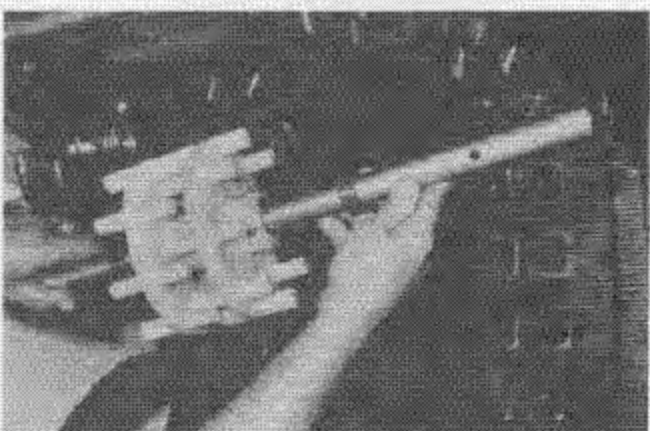

Fig. 45 — Removing or Installing Drive Shaft and Sprockets
9. Slide shaft, bearing lock collars and sprockets out of right-hand bearing as shown in Fig. 45, and remove track.
3. Install shaft into right-hand bearing as shown in Fig. 45.